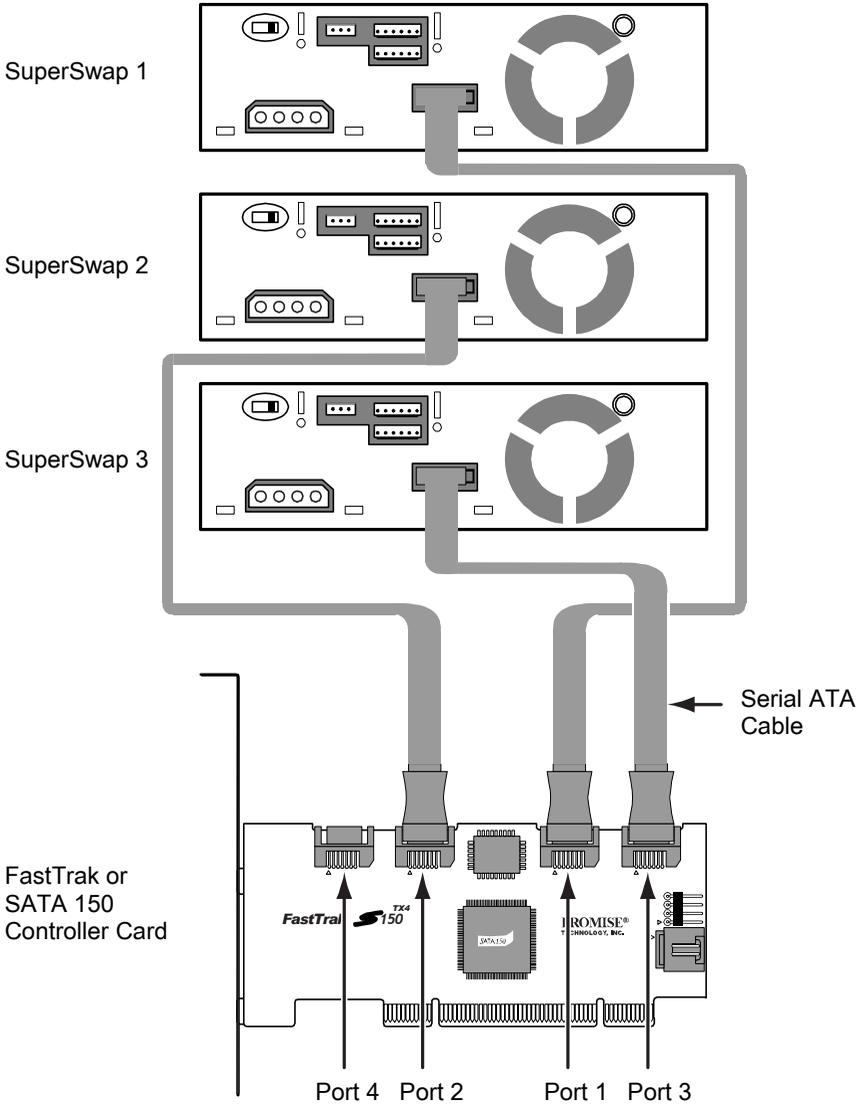

Figure 3. Serial ATA cable connections.
8. Connect a Serial ATA cable from your FastTrak or SATA 150 Controller card to the Serial ATA connector on the back of the housing assembly. If you are installing multiple SuperSwap 1100s, make the same connection for each. See Figure 3, below.